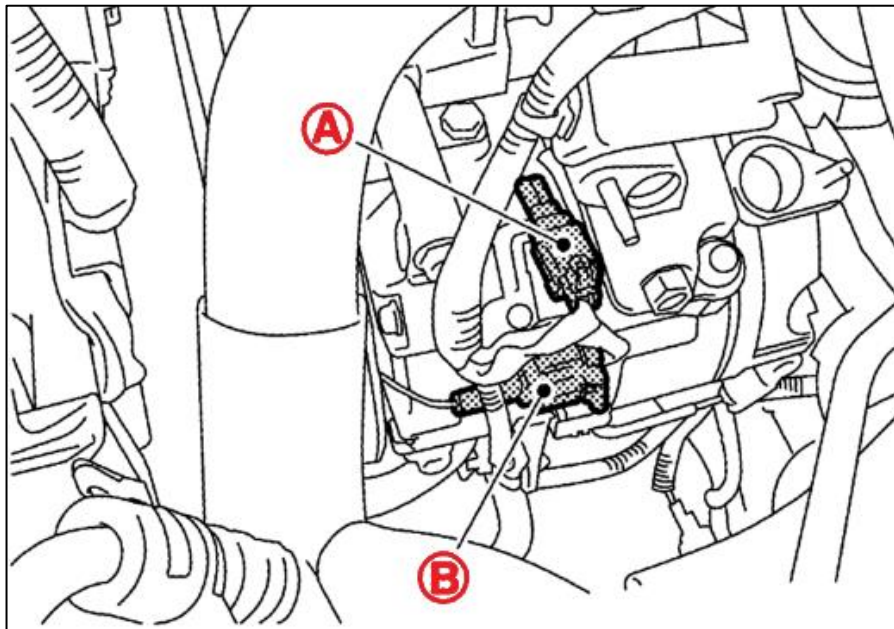

Figure 2
8. Disconnect the ECV Connector (A) and the Magnet Clutch Connector (B). *Figure 2.*